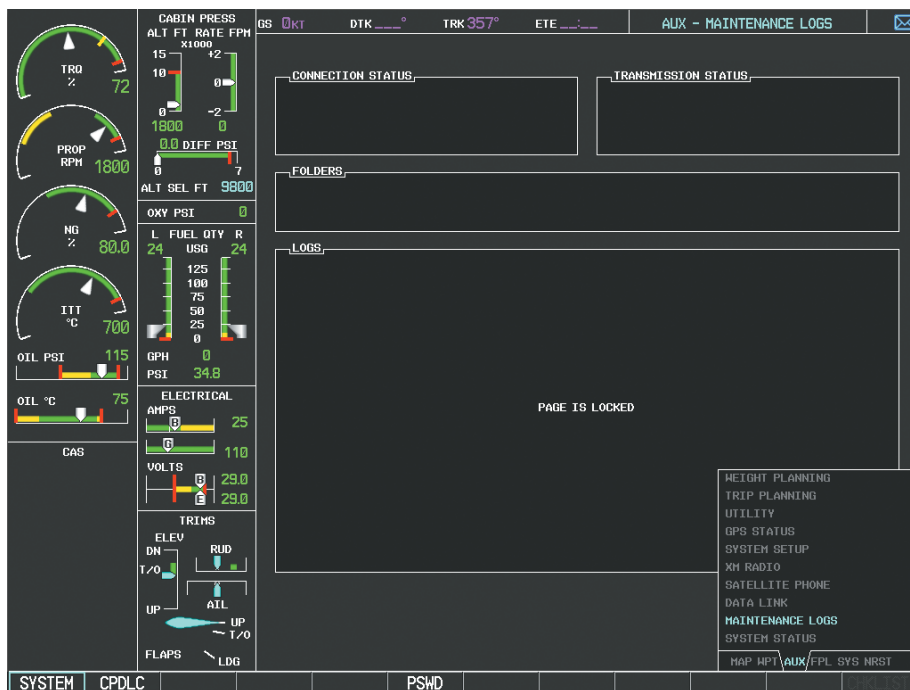

Figure 8-107 Maintenance Logs Page
- 2) Turn the small **FMS** Knob to select 'MAINTENANCE LOG', as seen in Figure 8-107. The AUX-MAINTENANCE LOGS Page is now displayed.